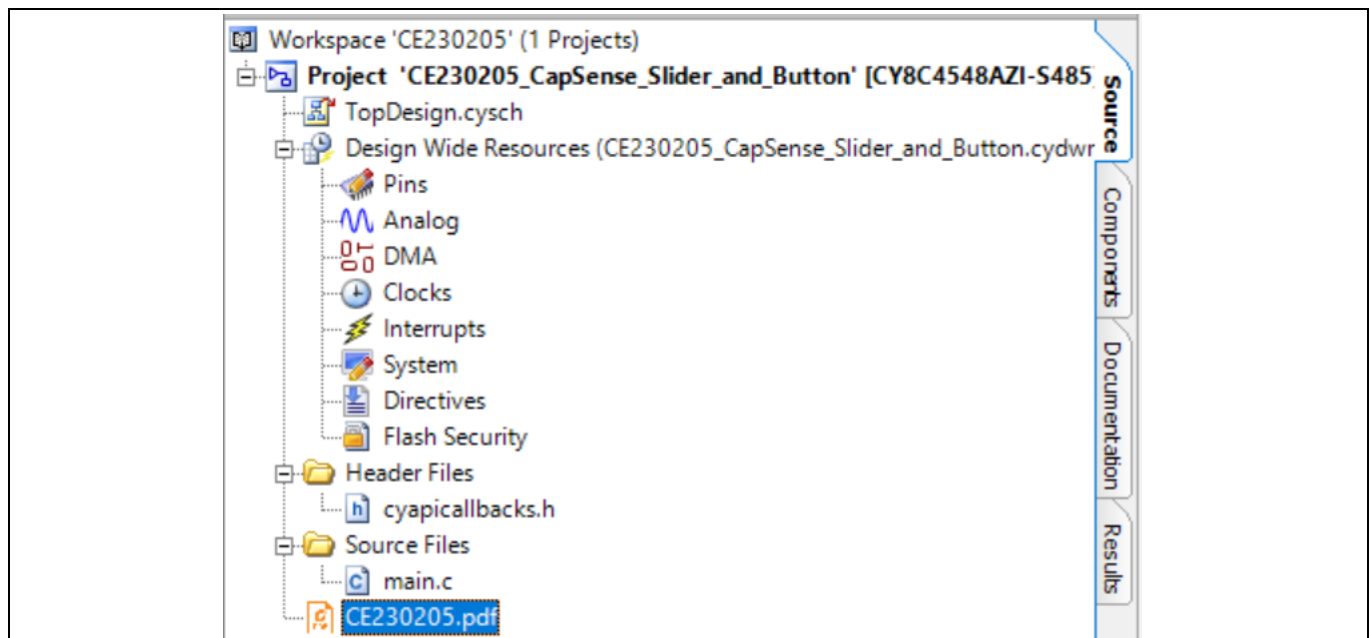

Figure 18 CE230205.pdf
- From the workspace explorer in PSoC Creator, open *CE230205.pdf* as shown in **Figure 18** to learn more about how to verify the functionality of the code example.